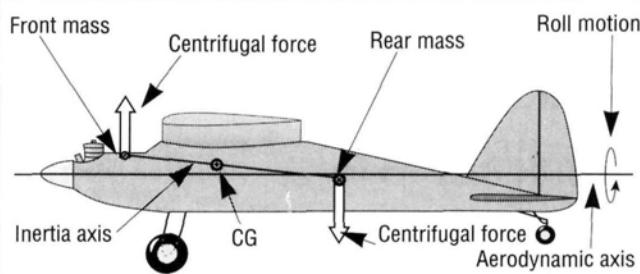

Figure 4.2. Side view of "Cloud-Niner" showing estimated aerodynamic and inertial axis.
- the inertial axis through the CG, joining the two element masses (see Figure 4.2).
However, if the inertial axis is inclined to the aerodynamic axis, as in Grant's theory, rotation about the aerodynamic axis will create centrifugal forces that, through the action of inertial forces, cause a pitching moment. This is "inertial roll coupling" (see Figure 4.2).